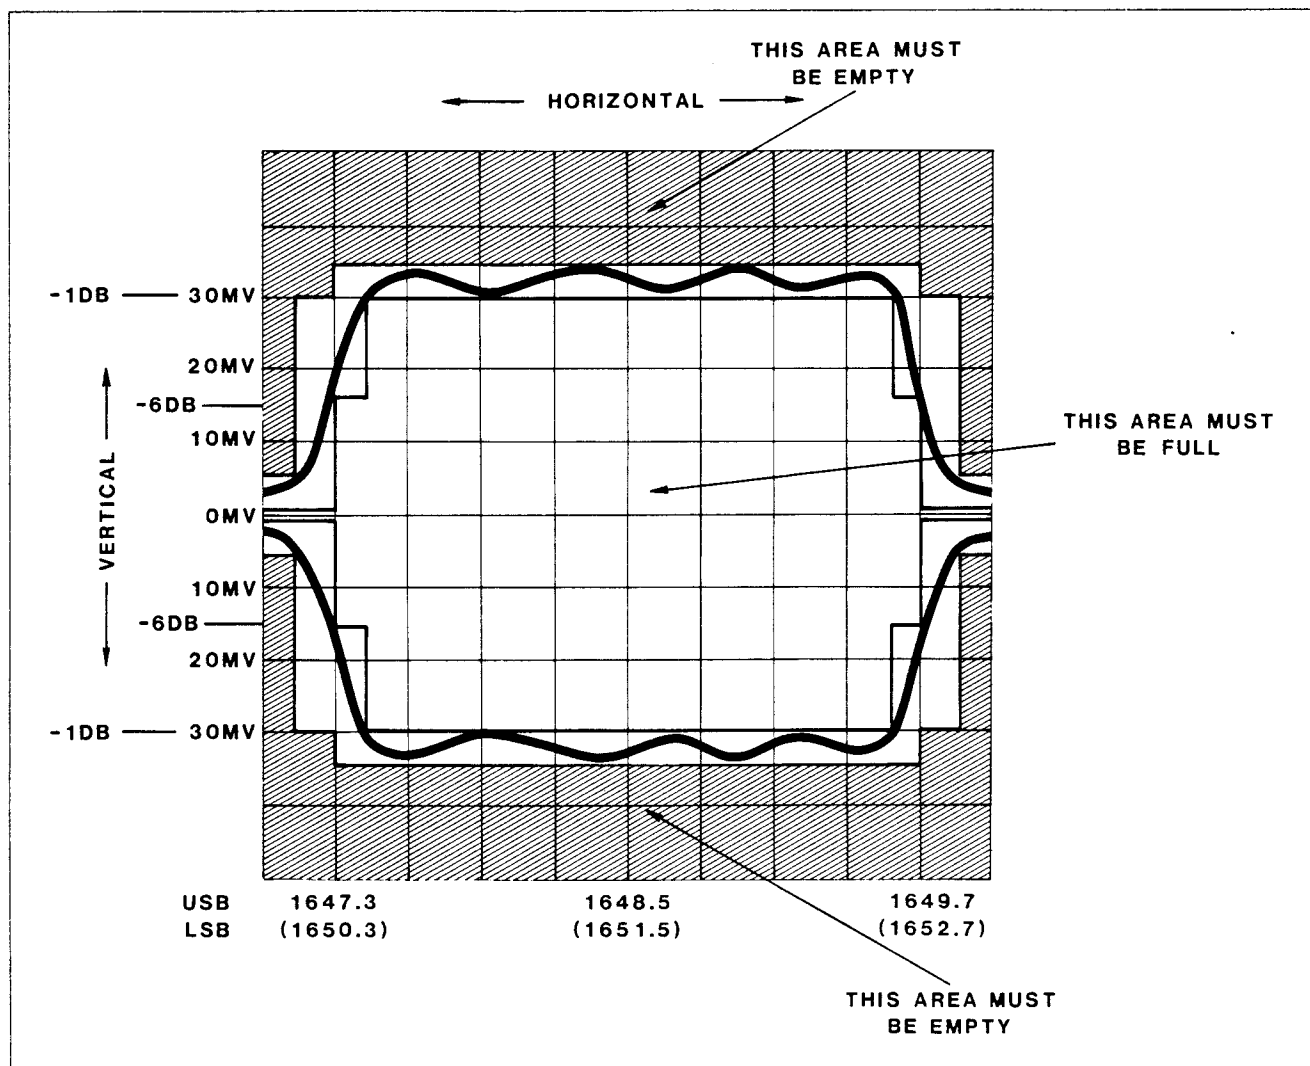

FIGURE 10.2-3. Waveform.
6. Adjust L1 and L2 for the flattest possible response. See Figure 10.2-3.